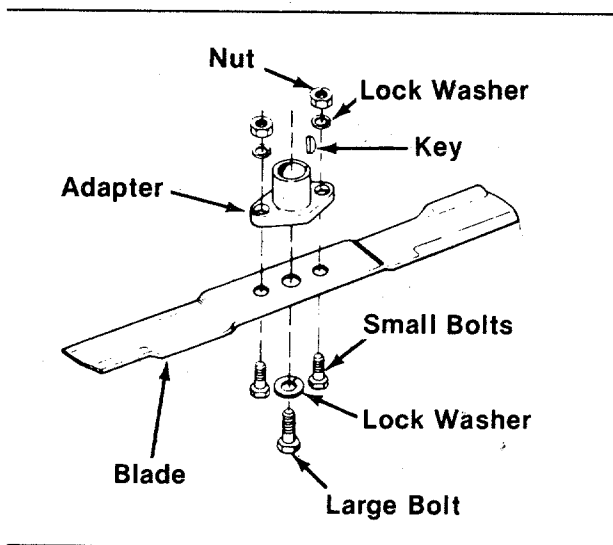

FIGURE 32
3. Remove the two smaller bolts, lock washers and nuts holding the blade to the adapter. (See figure 32.)